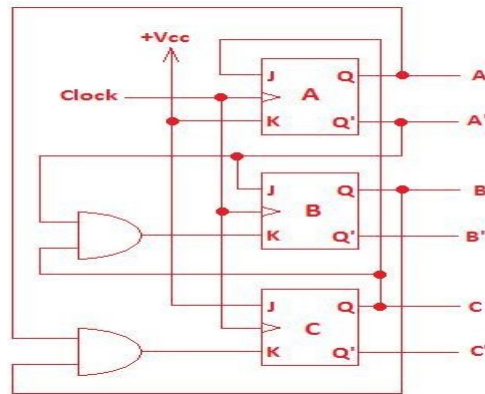

Fig.6: Circuit Diagram
3.6. Circuit Diagram: Logic diagram of mod-5 counter is shown in Fig.6 using three JK flip-flops and two 2-input AND gates.
4. **Unused States and Lock-out Conditions:** The counter circuit shown in Fig.6 cycles through the states 2, 3, 5, 1, 7 when on power on the counter launches in one of these states. However, if the counter launches in any of the unused states viz. 0, 4 and 6 then the counter may either come back to the desired counting cycle after a few clock or it may cycles through the unused states and never comes back to the desired loop. If the counter comes back to the desired loop it is called *self starting* otherwise the counter is said to be lock out condition. In case of lock out conditions can be overcome in two ways – a) consider all the unused states in the state diagram right at the beginning such that the transitions from all of them take place to one of the valid states and the circuit so designed will never be in lock out condition b) after the design is over if it found that the counter is in lock out condition then develop a circuit such that the next states from all the unused states will be one of the valid states. Let us check our design for lock out condition.